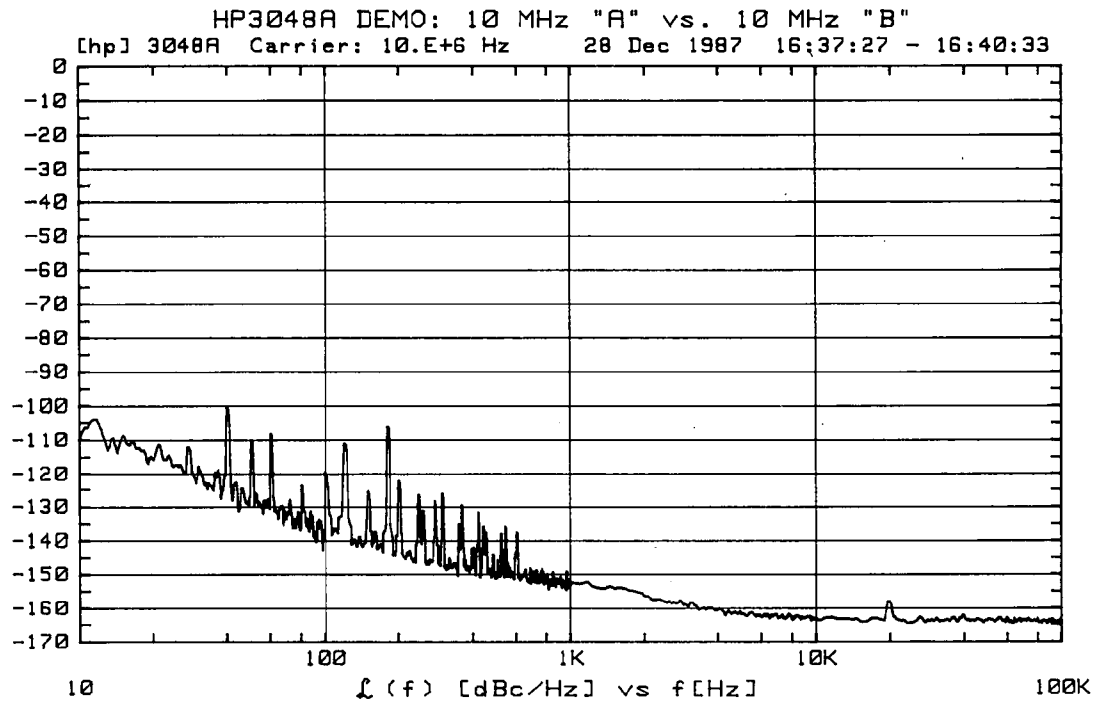

Figure 2. Typical Noise Plot for the System Quick Check.
5. Press the **Proceed** softkey to run the test. The measurement should proceed without error messages, and the measured noise results should be within 10 dB of that in Figure 2. (The plot in Figure 2 is typical for a System without an RF spectrum analyzer. The measurement takes about 10 minutes depending on the controller and the presence of the RF spectrum analyzer.)